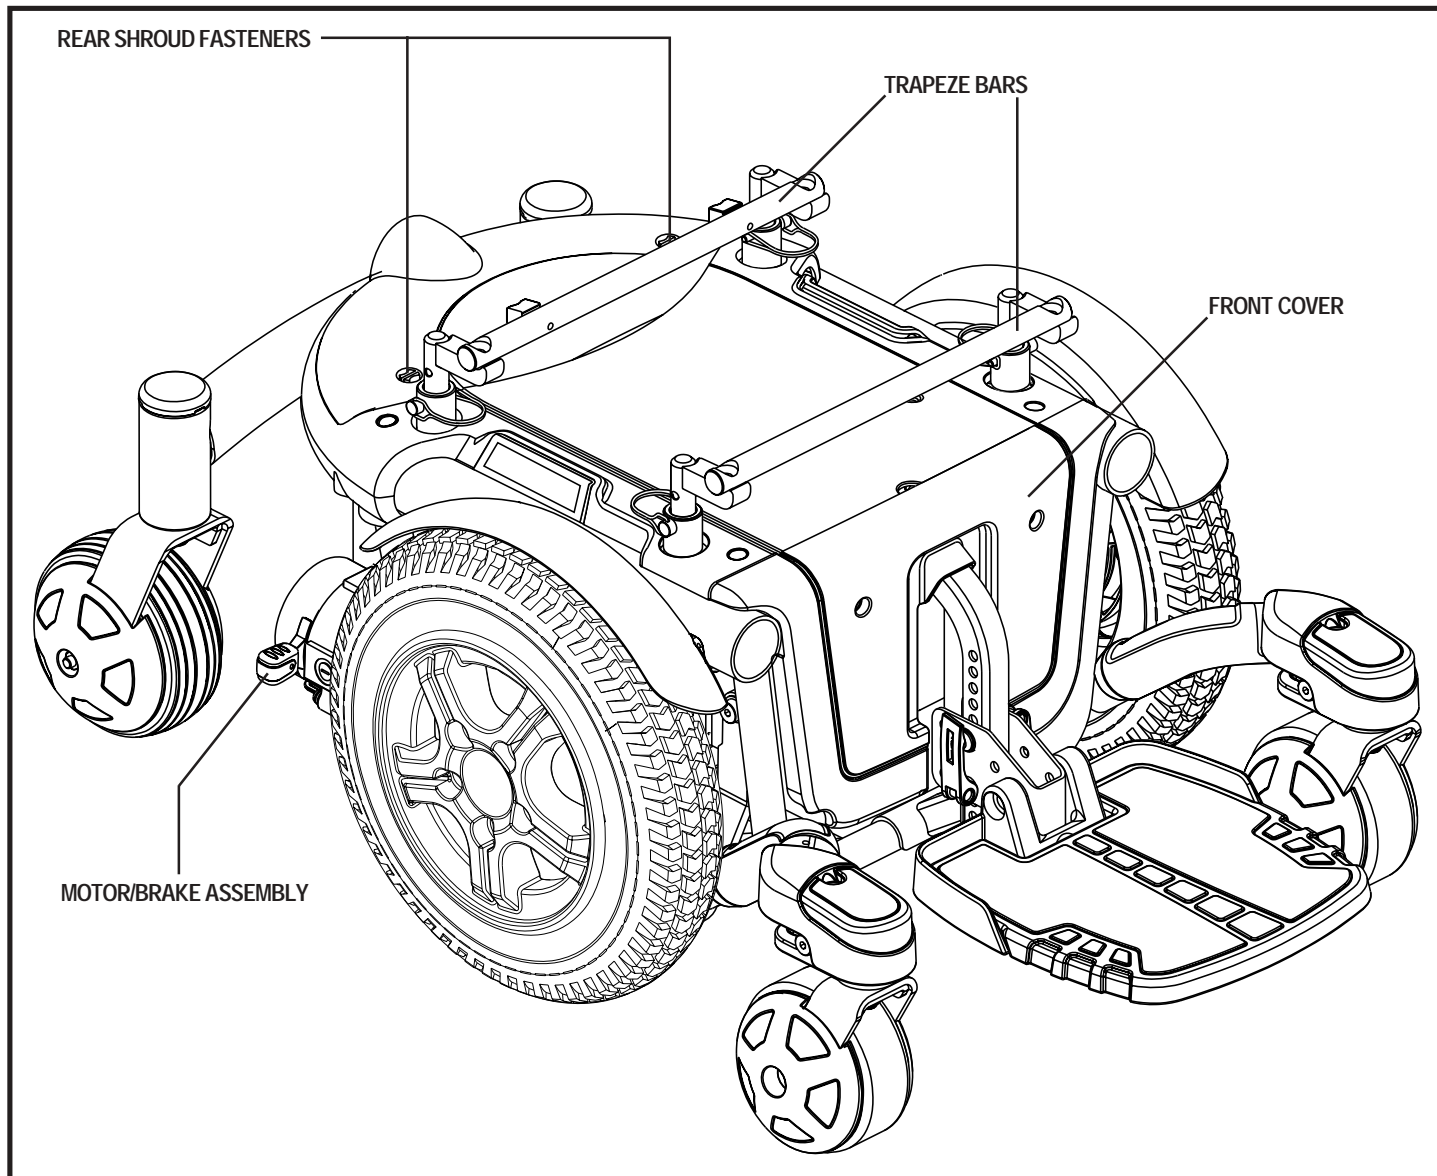

Figure 6. The Quantum 600 Series Power Base
5. Turn the rear shroud fasteners counterclockwise one-quarter turn to loosen. See figure 6.
2. Loosen the rear shroud fasteners and remove the rear shroud cover. See figure 6.